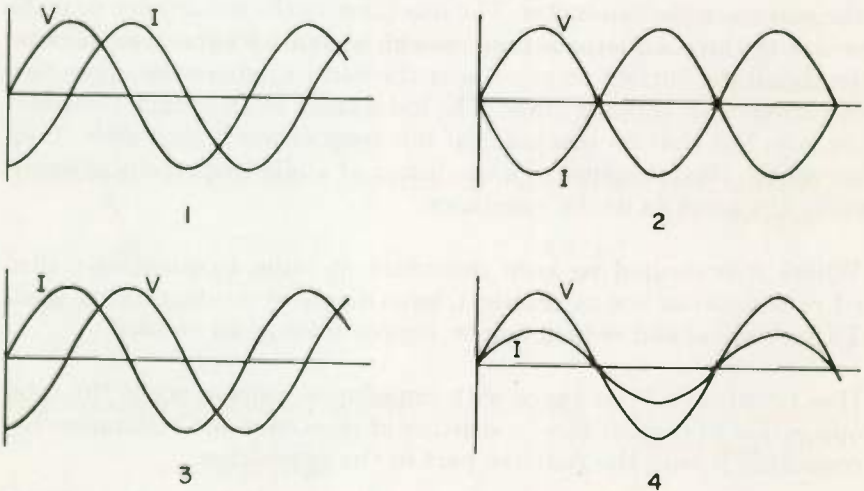

Fig. 37
- In Fig. 37 indicate which graph represents a sine wave of voltage leading a sine wave of current by 90° .
(1) (2) (3) (4)
- In Fig. 37 indicate which graph represents a sine wave of current leading a sine wave of voltage by 90° .
- In Fig. 37 indicate which graph represents a sine wave of voltage displaced from a sine wave of current by 180° .
- In Fig. 37 indicate which graph represents a sine wave of voltage in phase with a sine wave of current.